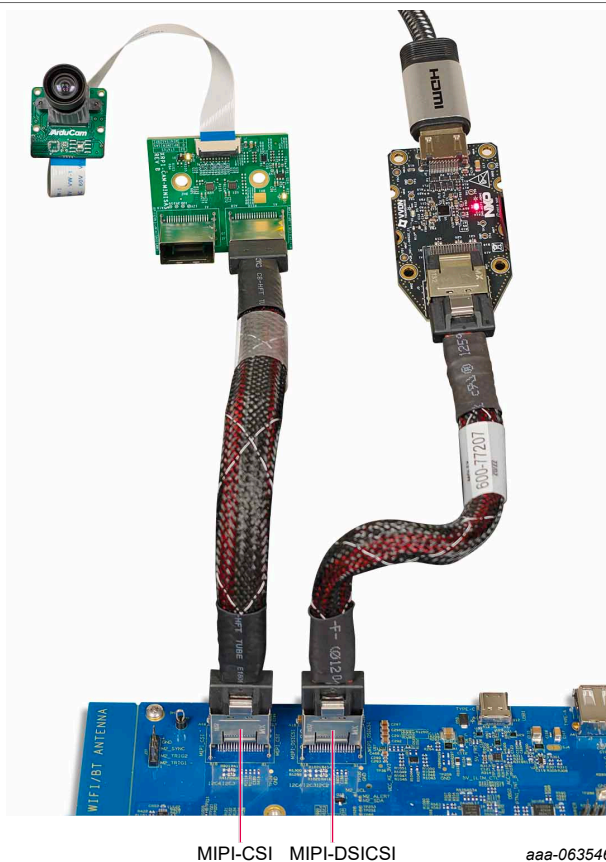

Figure 27. IMX 477 RPI-CAM-MINISAS connection to MIPI-CSI on IMX95LPD5EVK-19 board, IMX-MIPI-HDMI to HDMI monitor
4. Use the highlighted MIPI-CSI port to connect IMX95LPD5EVK-19 board with the RPI-CAM-MINISAS adaptor board, as shown in Figure 27.